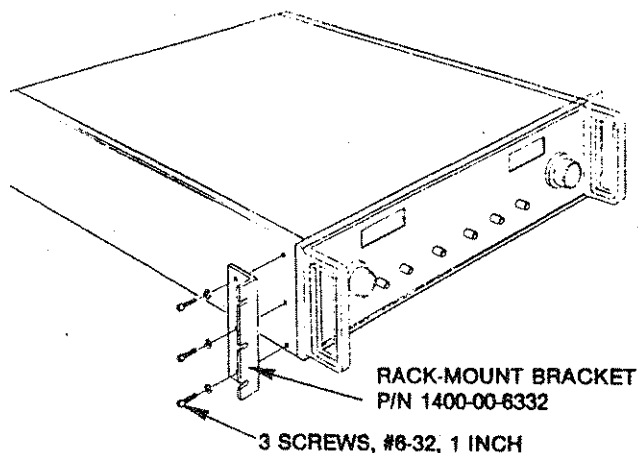

Figure 2-1. Preparation for Rack Mounting
3. Mount one of the adapters on the left side as shown in figure 2-1. Use 1 inch 6-32 screws rather than the shorter ones just removed.